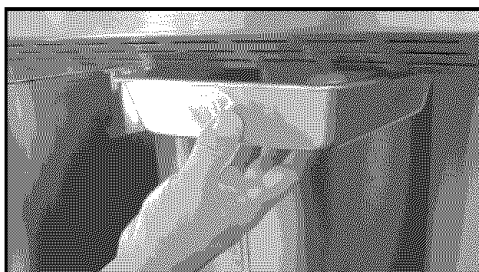

Fig. 7
5. Remove label from drip tray and verify that the tray is installed correctly. The drip tray is located underneath the grill, inside the storage compartment. (See Fig. 7)